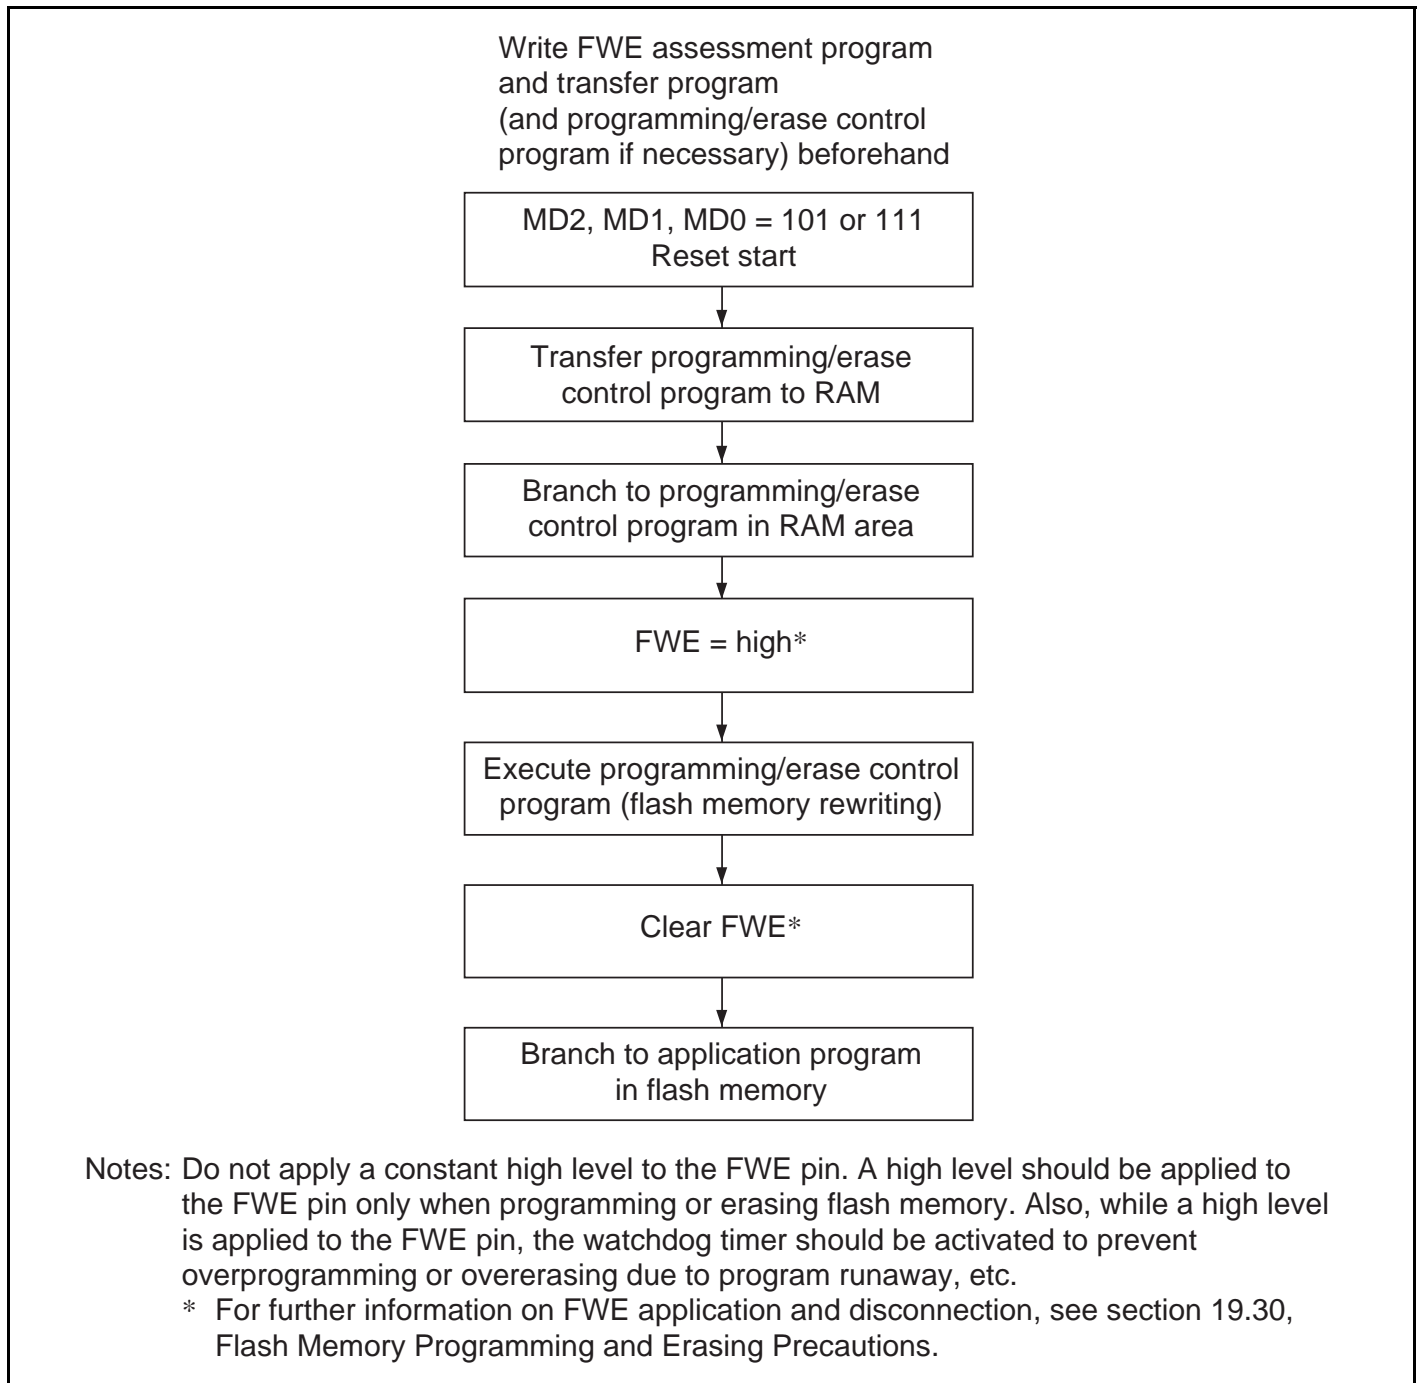

Figure 19.70 Example of User Program Mode Execution Procedure
Figure 19.70 shows the procedure for executing the program/erase control program when transferred to on-chip RAM.
Follow the procedure shown in the program/program-verify flowchart in figure 19.70 to write data or programs to flash memory. Performing program operations according to this flowchart will enable data or programs to be written to flash memory without subjecting the device to voltage stress or sacrificing program data reliability. Programming should be carried out 128 bytes at a time.
After the elapse of a given programming time, the programming mode is exited (the Pn bit in FLMCRn is cleared to 0, then the PSUn bit is cleared to 0 at least (α) μ s later). Next, the watchdog timer is cleared after the elapse of (β) μ s or more, and the operating mode is switched to program-verify mode by setting the PVn bit in FLMCRn. Before reading in program-verify mode, a dummy write of H'FF data should be made to the addresses to be read. The dummy write should be executed after the elapse of (γ) μ s or more. When the flash memory is read in this state (verify data is read in 16-bit units), the data at the latched address is read. Wait at least (ϵ) μ s after the dummy write before performing this read operation. Next, the originally written data is compared with the verify data, and reprogram data is computed (see figure 19.70) and transferred to the reprogram data area. After 128 bytes of data have been verified, exit program-verify mode and wait for at least (η) μ s, then clear the SWEn bit in FLMCRn to 0, and wait again for at least (θ) μ s. If reprogramming is necessary, set program mode again, and repeat the program/program-verify sequence as before. However, ensure that the program/program-verify sequence is not repeated more than (N) times on the same bits.